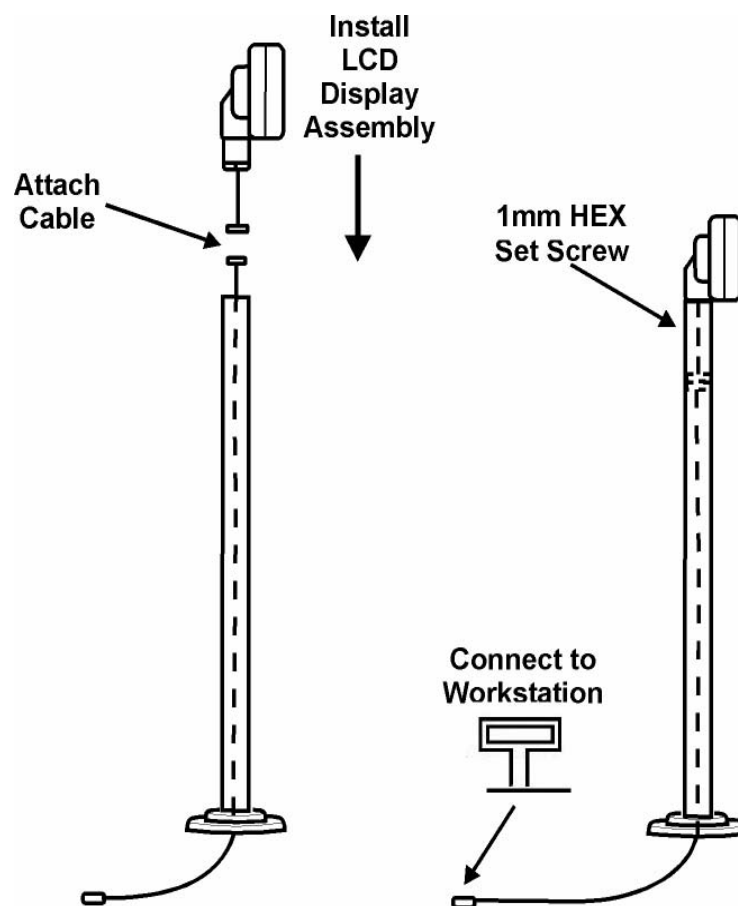

Figure 2-18: Assembling the LCD Pole Display
2. After mounting the pole display base to the counter surface, route the extension cable through the pole and connect the LCD assembly cable. Figure 2-18. Mount the LCD assembly to the pole, position the display head in the desired position and use a 1mm hex screw to lock the LCD assembly in place.